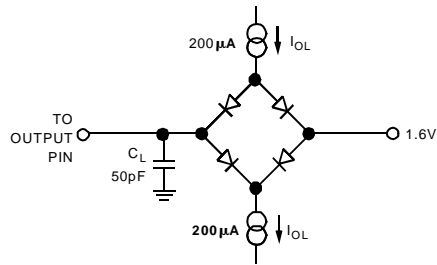

Figure 3. Load Circuit for Access Time and Bus Relinquish Time
- ¹³ Measured with the load circuit of Figure 3.